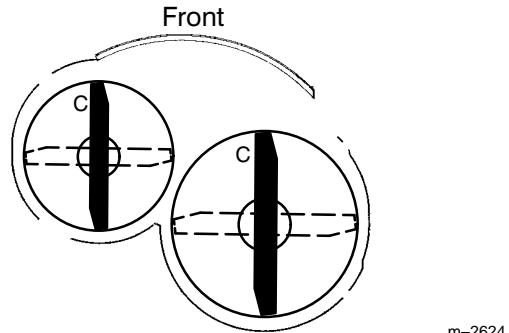

**Figure 12**
1. Inspect the cutting edges (Fig 12). If the edges are not sharp or have nicks, remove and sharpen the blades. Refer to Sharpening the Blades on page 13.
2. Inspect the blades, especially the curved area (Fig. 12). If you notice any damage, wear, or a slot forming in this area (item 3 in Fig. 12), immediately install a new blade.